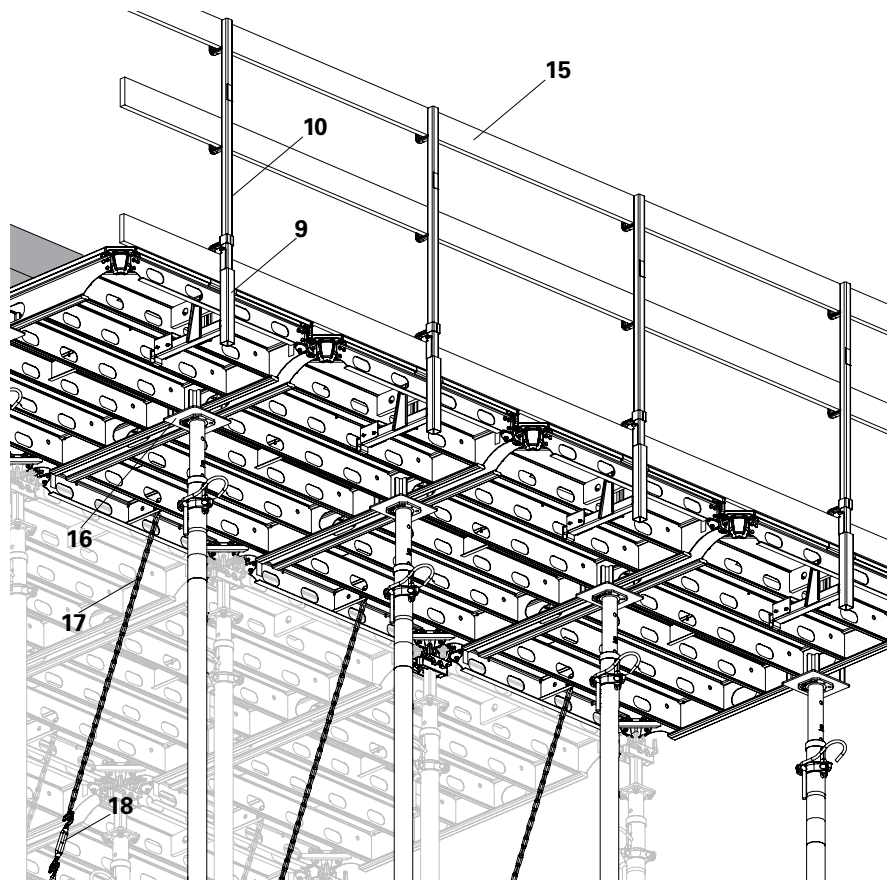

Fig. A10.04
5. Insert the guardrail post HSGP-2 (**10**) into the guardrail holder (**9**) from top only after it is firmly secured with anchor chains. (Fig. A10.04)
6. Insert the guardrail boards (**15**) and secure with nails. (Fig. A10.04)